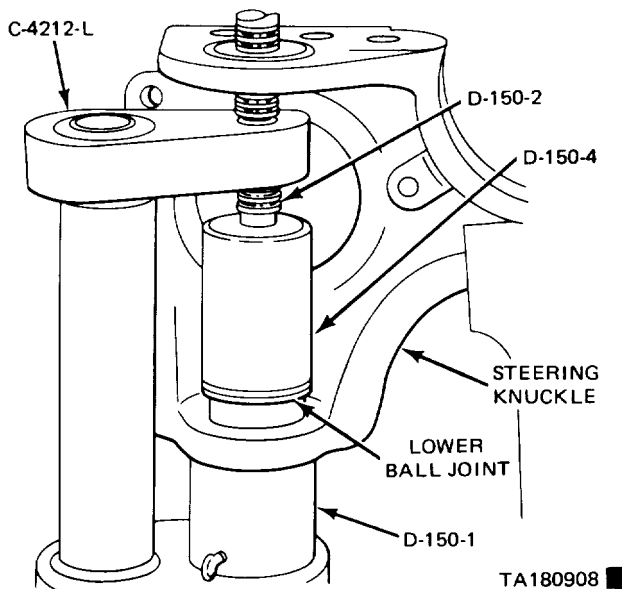

Figure 6-6. Installing Lower Ball Joint.
(1) Position the steering knuckle right side up in a vise. Using tool C4212-L and adapter set C-4288 positioned as shown in figure 6-6, carefully press the lower ball joint into position. Install the snap ring.